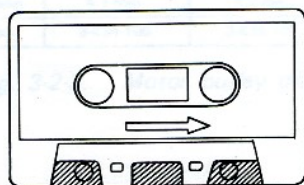

Fig. 3-1-5.
1. Cut away the portions of one side of the cassette case indicated with oblique line in Fig. 3-1-5 with a pair of cutting pliers and put it into the unit.